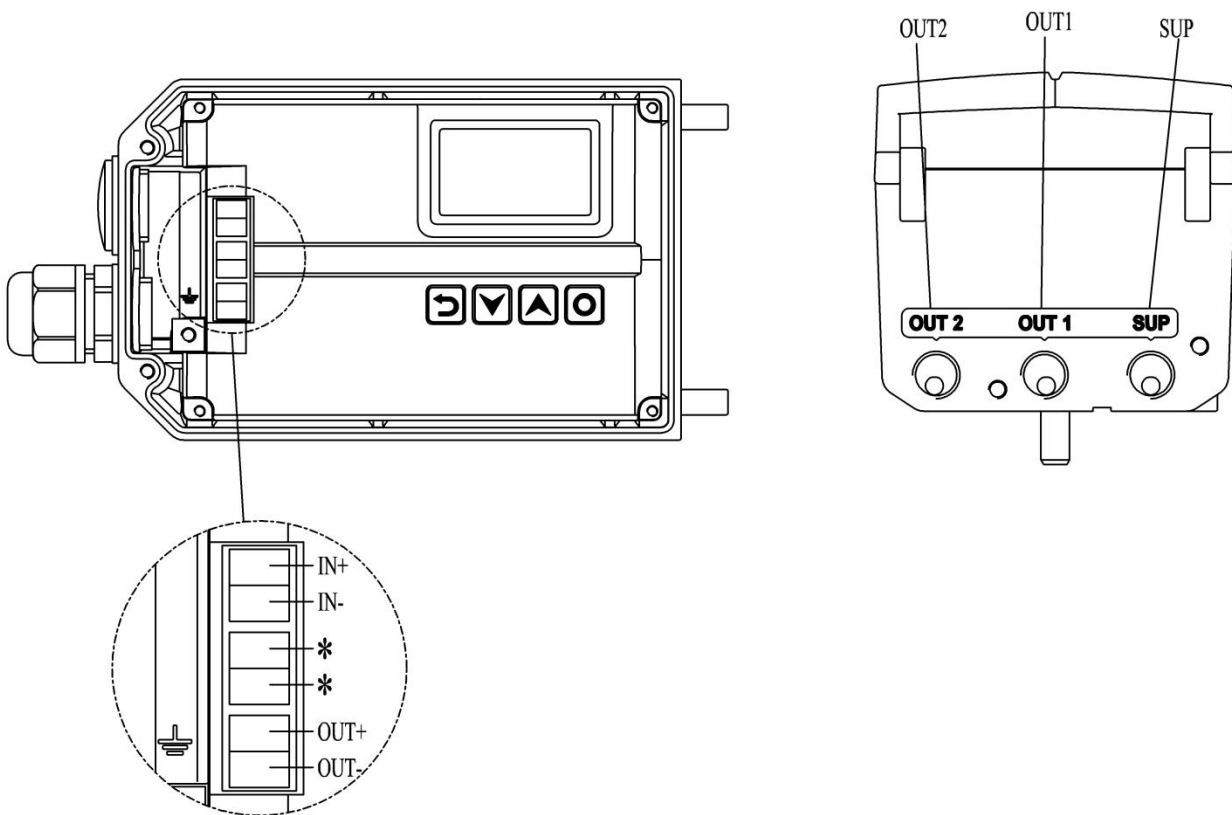

Figure 1. Connection description
- If the input signal has attenuation and the user does not require HART communication function, try to set to low impedance mode. Connect the two undefined electrical interfaces marked with * in Figure 1 to each other through one wire to make the positioner in low impedance mode.